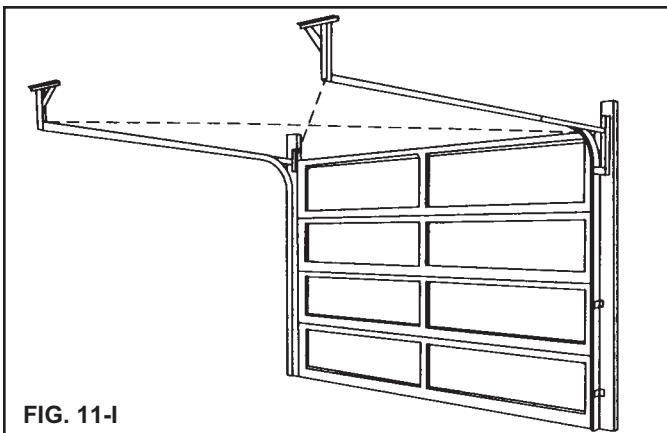

FIG. 11-I
Step 11-9: With the track installed, the top door section can now be properly adjusted. With the slide on the top bracket loose, force the top of the door against the stop molding or door jamb. Pull the roller towards you so it is tight against the groove in the track and tighten the slide bolts. (FIG. 11-J)